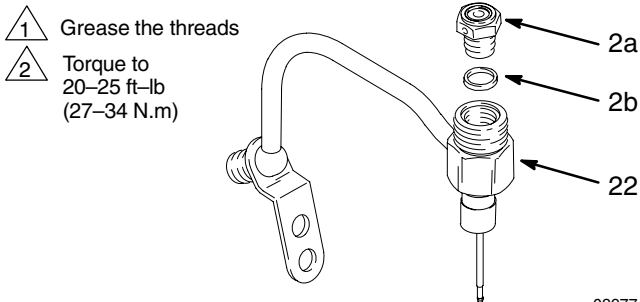

Fig. 15 03977
3. Place the gasket (2b) on the valve seat (2a). Grease the threads of the valve seat (2a). Screw the valve seat into the fluid housing (22). Torque to 20–25 ft-lb (27–34 N.m). See Fig. 15.